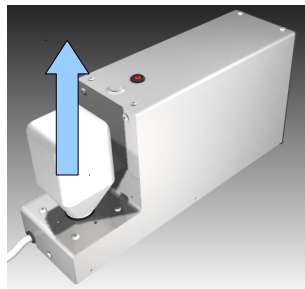

Fig. 23: remove the empty ink bottle
- remove the empty ink bottle from the printer (Fig. 23)